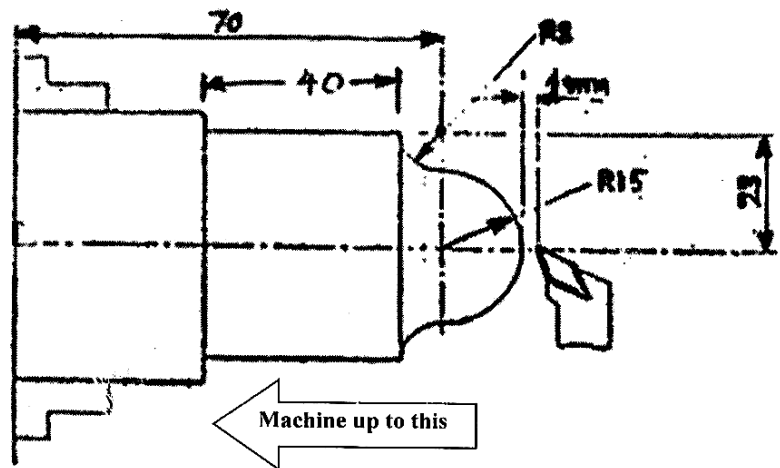

Fig. 4
4. Write a manual part program for the finishing cycle of a turned job as shown in fig. 4 to be machined in a CNC lathe. 10